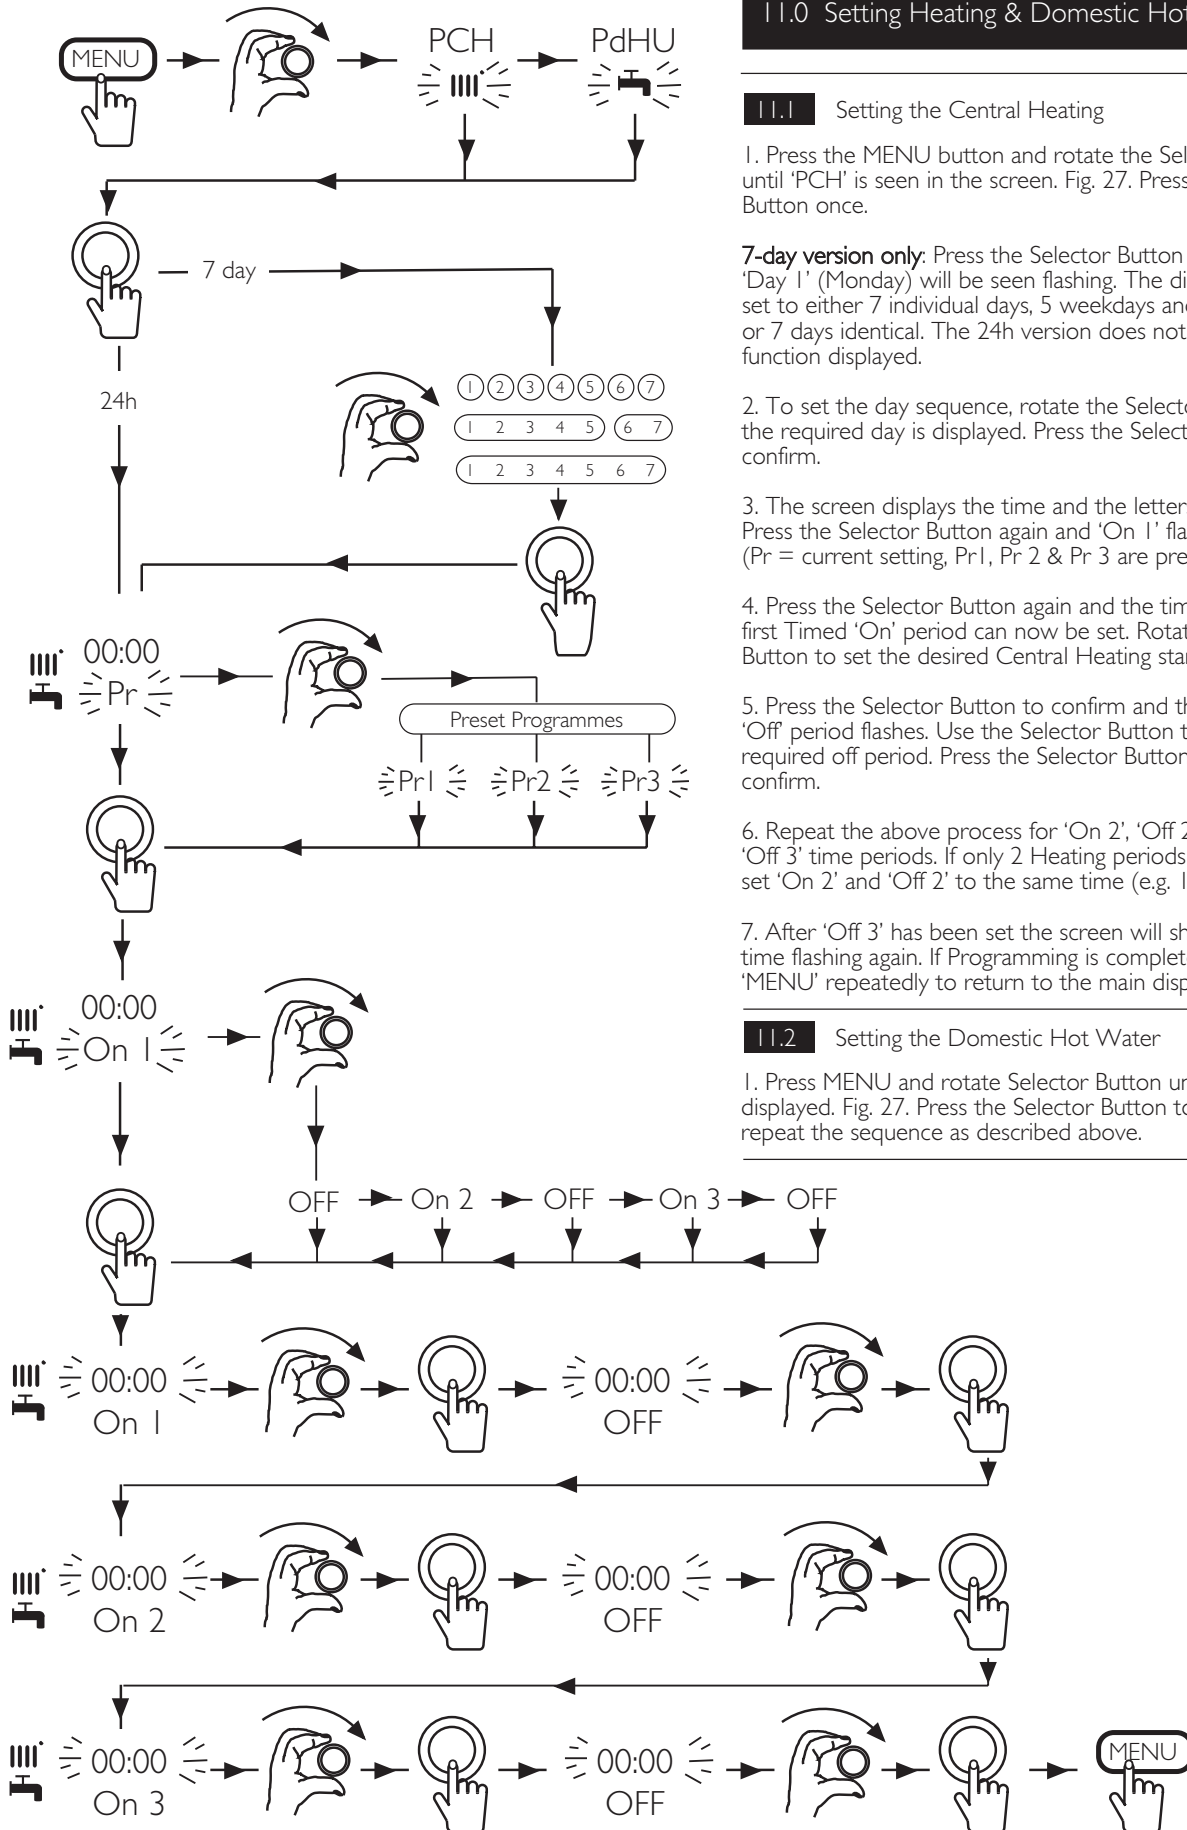

Fig. 27. Setting Central Heating & Domestic Hot Water
1. Press the MENU button and rotate the Selector Button until 'PCH' is seen in the screen. Fig. 27. Press the Selector Button once.
1. Press MENU and rotate Selector Button until 'PdHU' is displayed. Fig. 27. Press the Selector Button to confirm and repeat the sequence as described above.